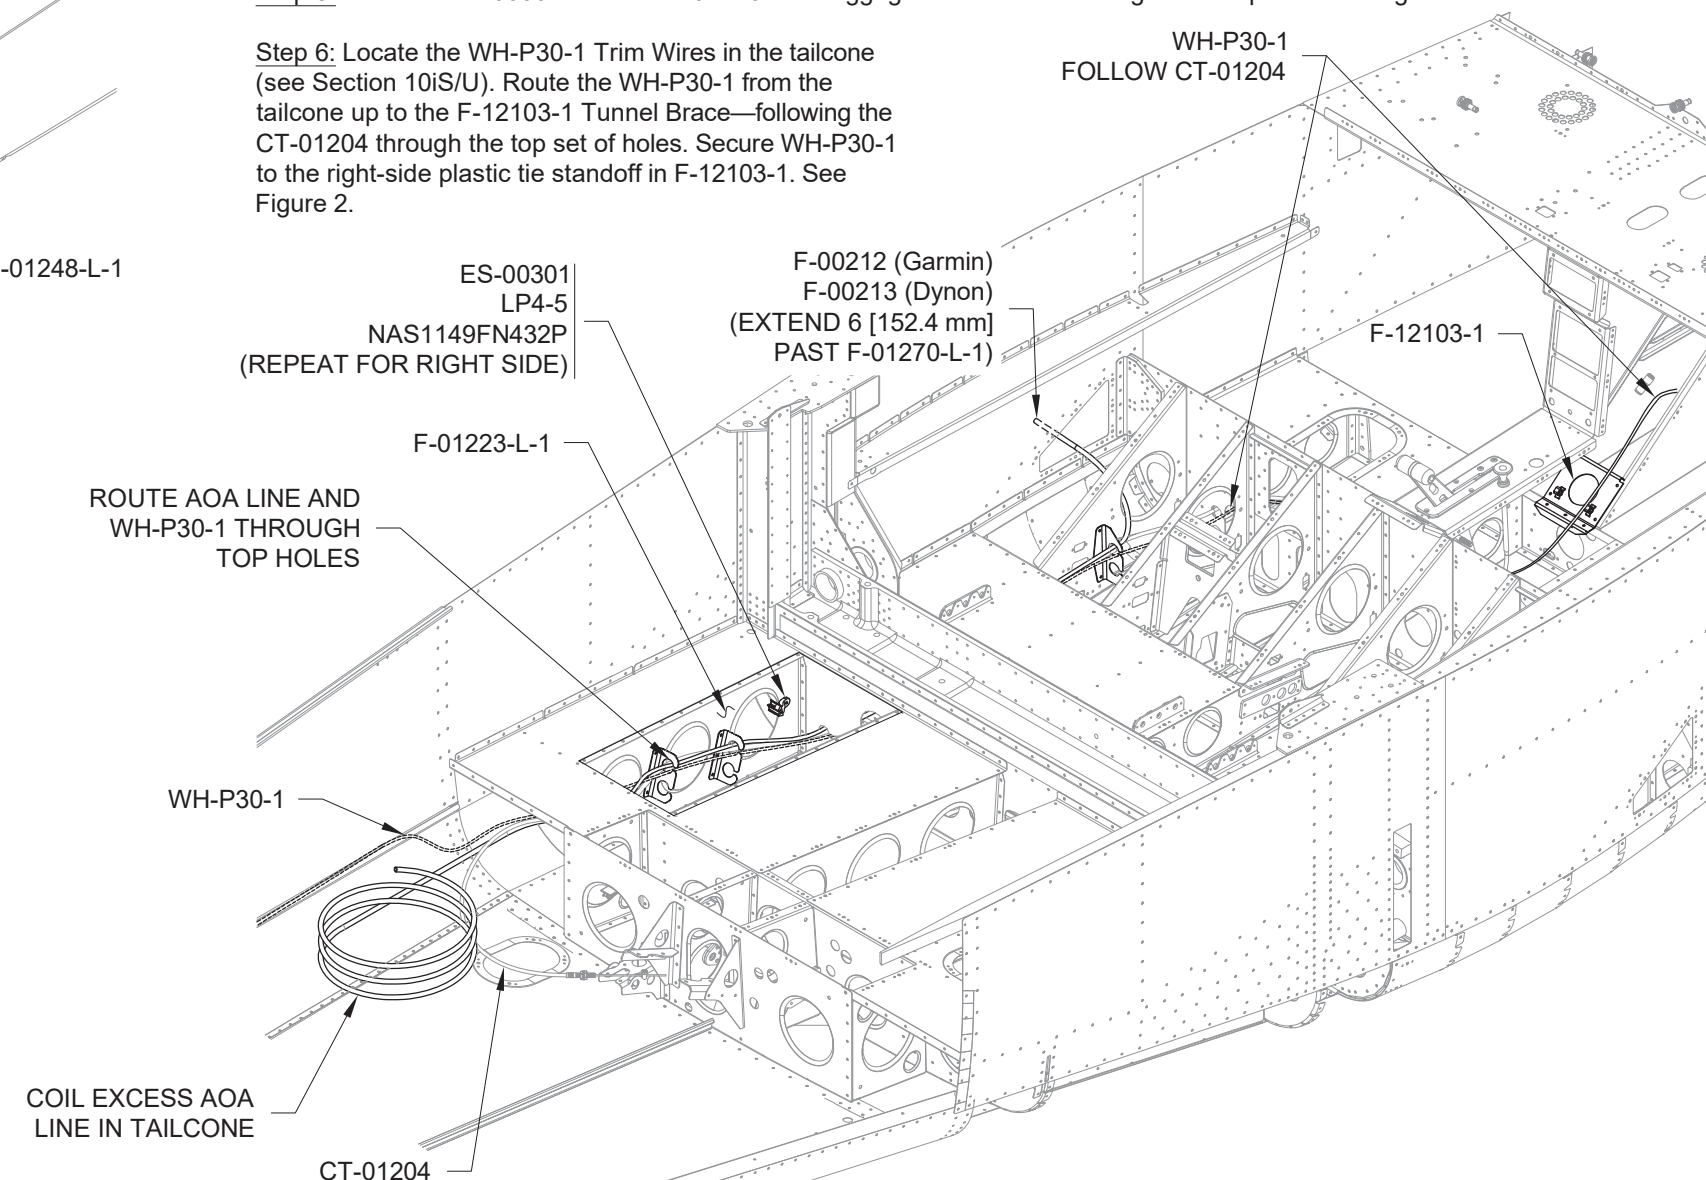

FIGURE 2: INSTALLING AOA LINE AND TRIM WIRE
Step 6: Locate the WH-P30-1 Trim Wires in the tailcone (see Section 10iS/U). Route the WH-P30-1 from the tailcone up to the F-12103-1 Tunnel Brace—following the CT-01204 through the top set of holes. Secure WH-P30-1 to the right-side plastic tie standoff in F-12103-1. See Figure 2.
Step 2: Drill #19 in the location shown on the F-1232A Roll Bar Brace. See Figure 2.